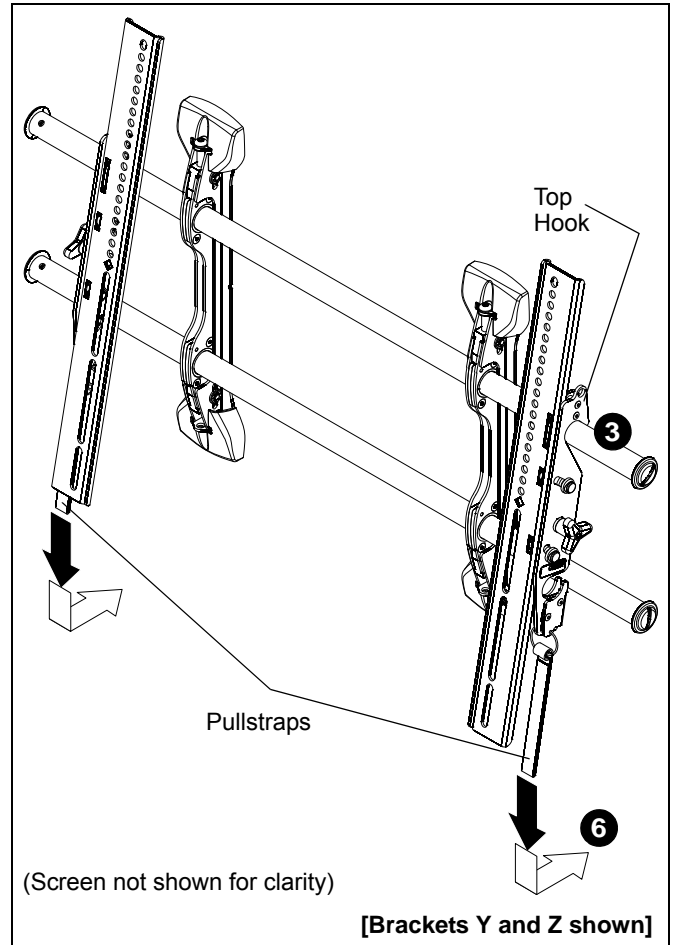

Figure 9
- Hang top hook of interface brackets (W and X or Y and Z) onto the top bar of the mount (R). (See Figure 9)
- Pull downward on the pullstraps and swing inward toward wall, latching interface brackets to lower bar and locking bottom of screen to the mount. (See Figure 9)